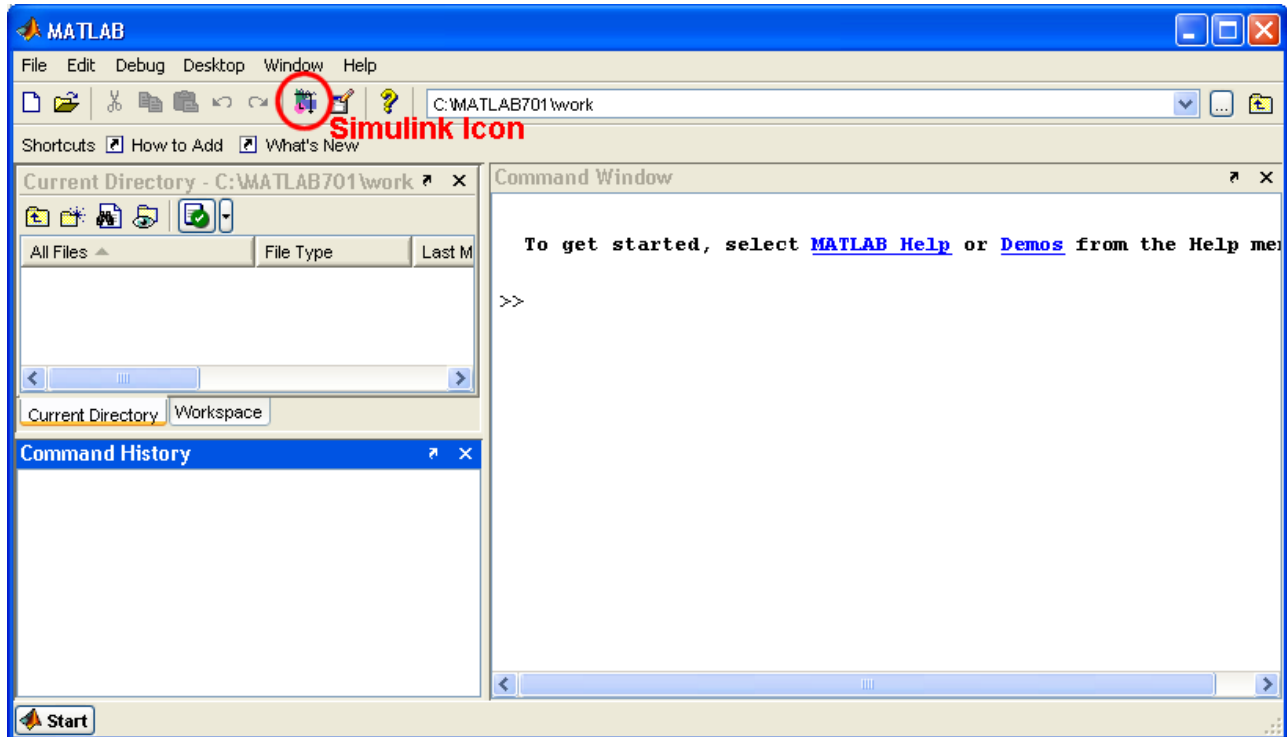
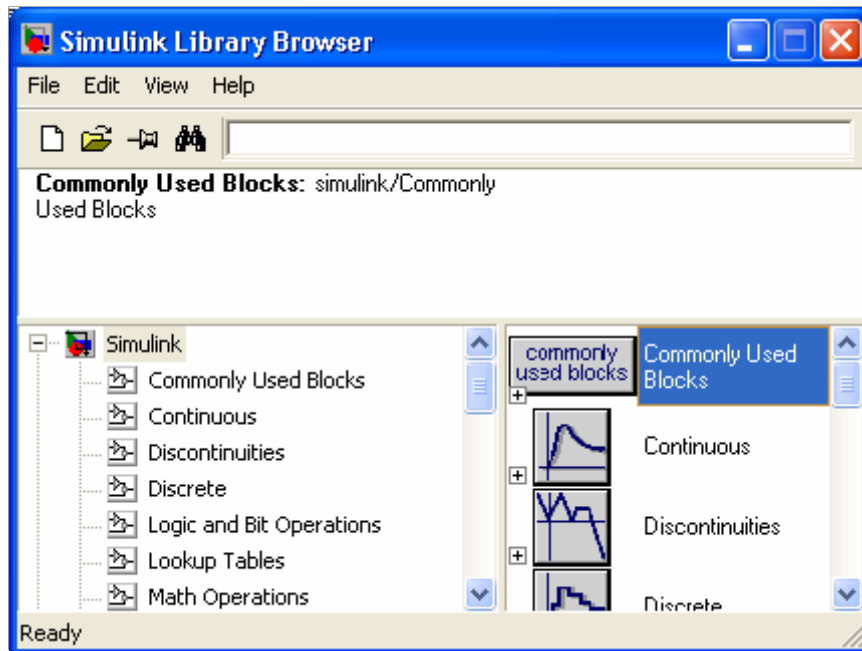
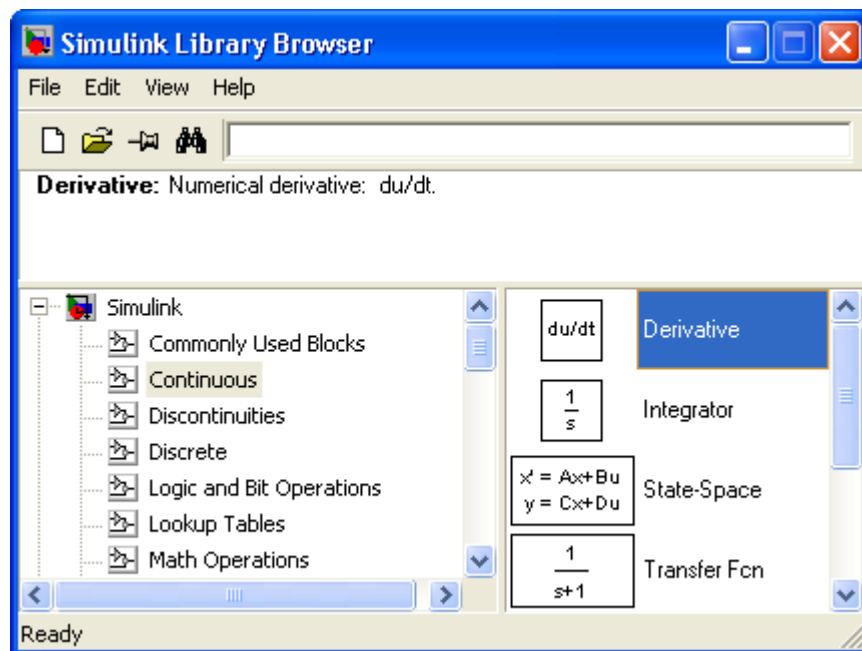

Figure 1: MATLAB Command Window
Figure 2: Simulink Library Browser
Figure 3: Example of an Opened SIMULINK Library
1. Start MATLAB. The MATLAB command window (MATLAB 7 is used here), shown in Figure 1, will appear on the screen. In the MATLAB command window, type **simulink** or select the SIMULINK icon, circled in Figure 1, to bring up the SIMULINK Library browser, which can be seen in Figure 2.
2. The library browser, shown in Figure 2, contains the Simulink library and various toolbox libraries, which are licensed for your system. In the Windows release of Simulink, there is a lower right window that displays the current library contents as shown in Figure 2 for the Simulink library. In either of the lower windows selecting the  symbol with the left mouse button or double-clicking the left mouse button on the name will open that library (or sub-library). This will display various sub-libraries or Simulink blocks depending on what level you are at. An example of this is given in Figure 3.
1. If the Simulink library is not already open, open it by left clicking on the \oplus symbol by the word Simulink on the left side of the Simulink Library Browser (Figure 2 shows the Library Browser with an opened Simulink library).